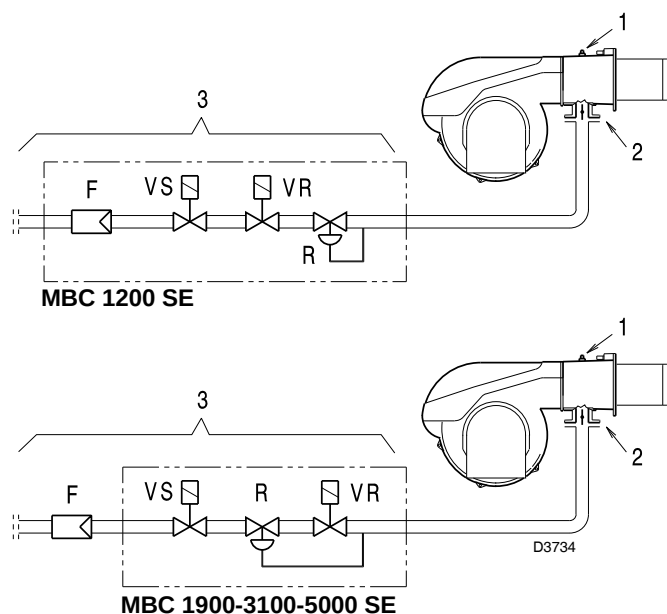

Fig. 26
Gas pressure measured at the test point 1) (Fig. 26), with:
Pressure loss at gas butterfly valve 2) (Fig. 26) with maximum opening: 90°.
Pressure loss of gas train 3)(Fig. 26) includes:
- subtract the combustion chamber pressure from the gas pressure measured at test point 1) (Fig. 26).
Gas pressure at test point 1) (Fig. 26) = 32.2 mbar
To calculate the required gas pressure at test point 1) (Fig. 26), set the maximum output required from the burner operation:
- Read off the pressure at test point 1) (Fig. 26) on the right in column 1.
pressure required at test point 1) (Fig. 26).